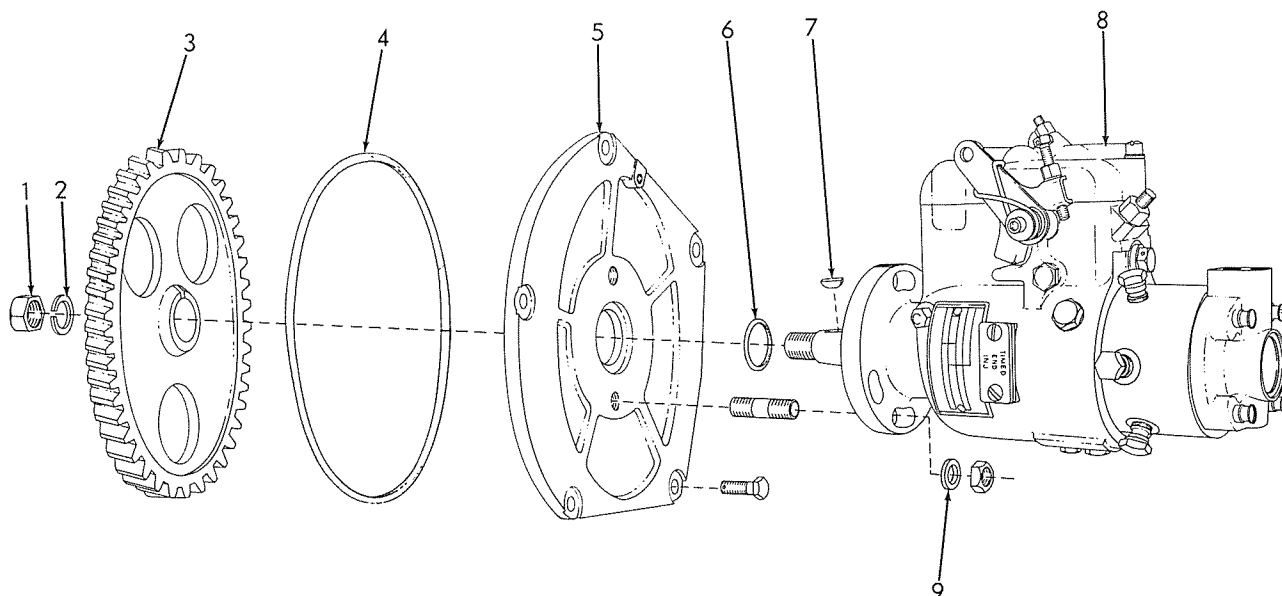
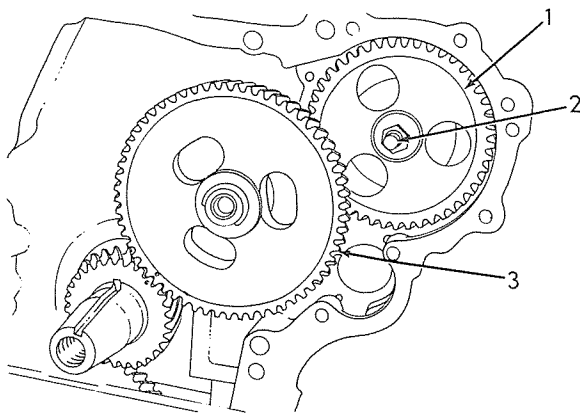

Fig. 10-Pump Drive Gear and Mounting Cover Details
Fig. 11—Location of Fuel Pump Drive Gear
- Remove the capscrews and lockwashers attaching the pump mounting cover, Fig. 10 (5), to the timing gear housing.
- Remove the pump timing gear (3), cover (5), and pump drive shaft from the timing gear housing as an assembly.
- Remove thrust button, Fig. 11 (2), and spring from end of pump drive shaft.
- Remove nut, Fig. 10 (1), and lockwasher (2) from end of shaft and pull or press gear (3) from shaft.
- To install the pump drive gear, place the woodruff key, Fig. 10 (7), in position in the pump drive shaft, place gear in position on shaft, install lockwasher (2) and nut (1) on the shaft and tighten to a torque of 35 - 40 lbs. ft.
- Inspect O-rings (4) and (6), if they are not dam-